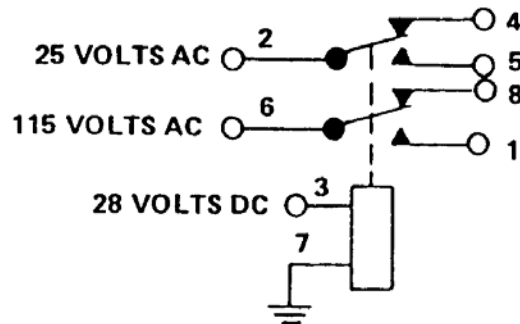

Figure R-1. Relay Checks
a. In many pieces of military equipment, the relay coil is connected to a 28 VDC source, as shown in Figure R-1. When the switch is closed, the path for current is complete and current should flow through the coil. To ensure that the switch and the connecting wires are good, a voltmeter can be connected to the coil connections (3 and 7). If 28V are indicated, the primary power is getting to the relay.
b. Even if the coil is getting its voltage, the relay may still malfunction. In Figure R-1, 115 VAC is present at the lower wiper (contact 6).
(1) If the relay energizes properly, 115 VAC should also be present at contact 1. If a voltmeter indicates that 115 VAC is not present at contact 1, then either the armature is not moving or there is a poor connection between switching contacts.
(2) Since the relay is supposed to be energized, the voltage at deenergized contact 8 should read zero volts on a voltmeter. A 115 VAC reading would indicate that the relay is not energizing correctly.
b. A resistance check of the deenergizing contacts (2 and 4 or 6 and 8) in Figure R-1 should indicate continuity with the relay off and disconnected. A resistance check of the energized contacts (2 and 5 or 6 and 1 in Figure R-1) should indicate discontinuity (infinite resistance).